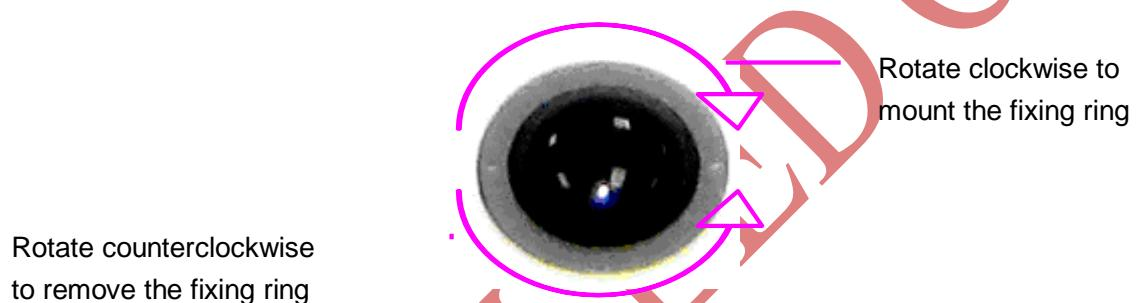

Figure 14-2 Assembling and Disassembling Trackball
2. Remove the trackball as shown in figure 14-2.